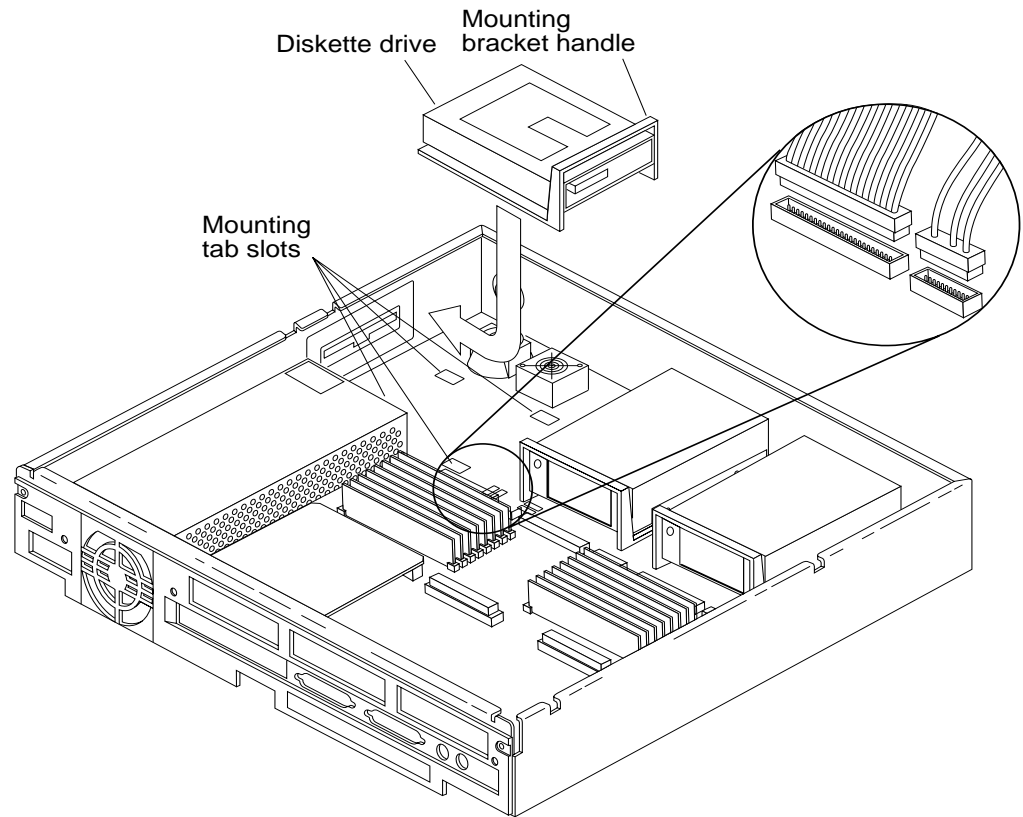

Figure 4-16 Removing and Replacing the Diskette Drive
- 7. Grasp the diskette drive mounting bracket handle (see Figure 4-16).**
- 1. Align the four mounting tabs on the bottom of the drive mounting bracket with the slots in the bottom of the chassis (see Figure 4-16).**